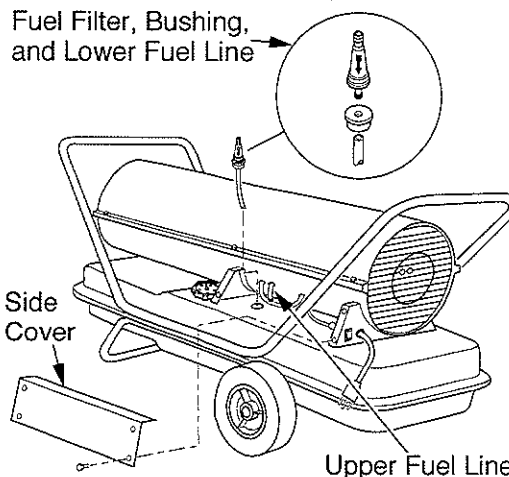

Figure 19 - Fuel Filter Removal, 110/115/155/165/200 Models
- Carefully pry bushing, fuel filter, and lower fuel line (110/115/155/165/200 Models only) out of fuel tank (see Figure 19).